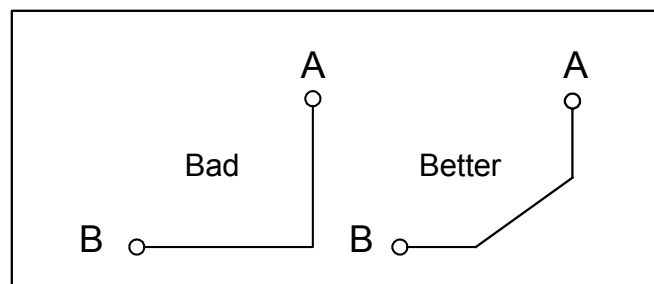

Figure 1. Signal Trace Angles
- Ninety-degree trace angles should be avoided. We recommend that the traces turn at 45° angles as shown in Figure 1. Sharp edges may add unexpected parasitic effects into the circuitry. Reducing the trace length will reduce trace inductance during quick energy bursts
- Ninety-degree trace corners should be avoided. We recommend that the traces turn at 45° angles as shown in Figure 1, page 4. Sharp edges may add unexpected parasitic effects into the circuitry. Reducing the trace length will reduce trace inductance during quick energy bursts.